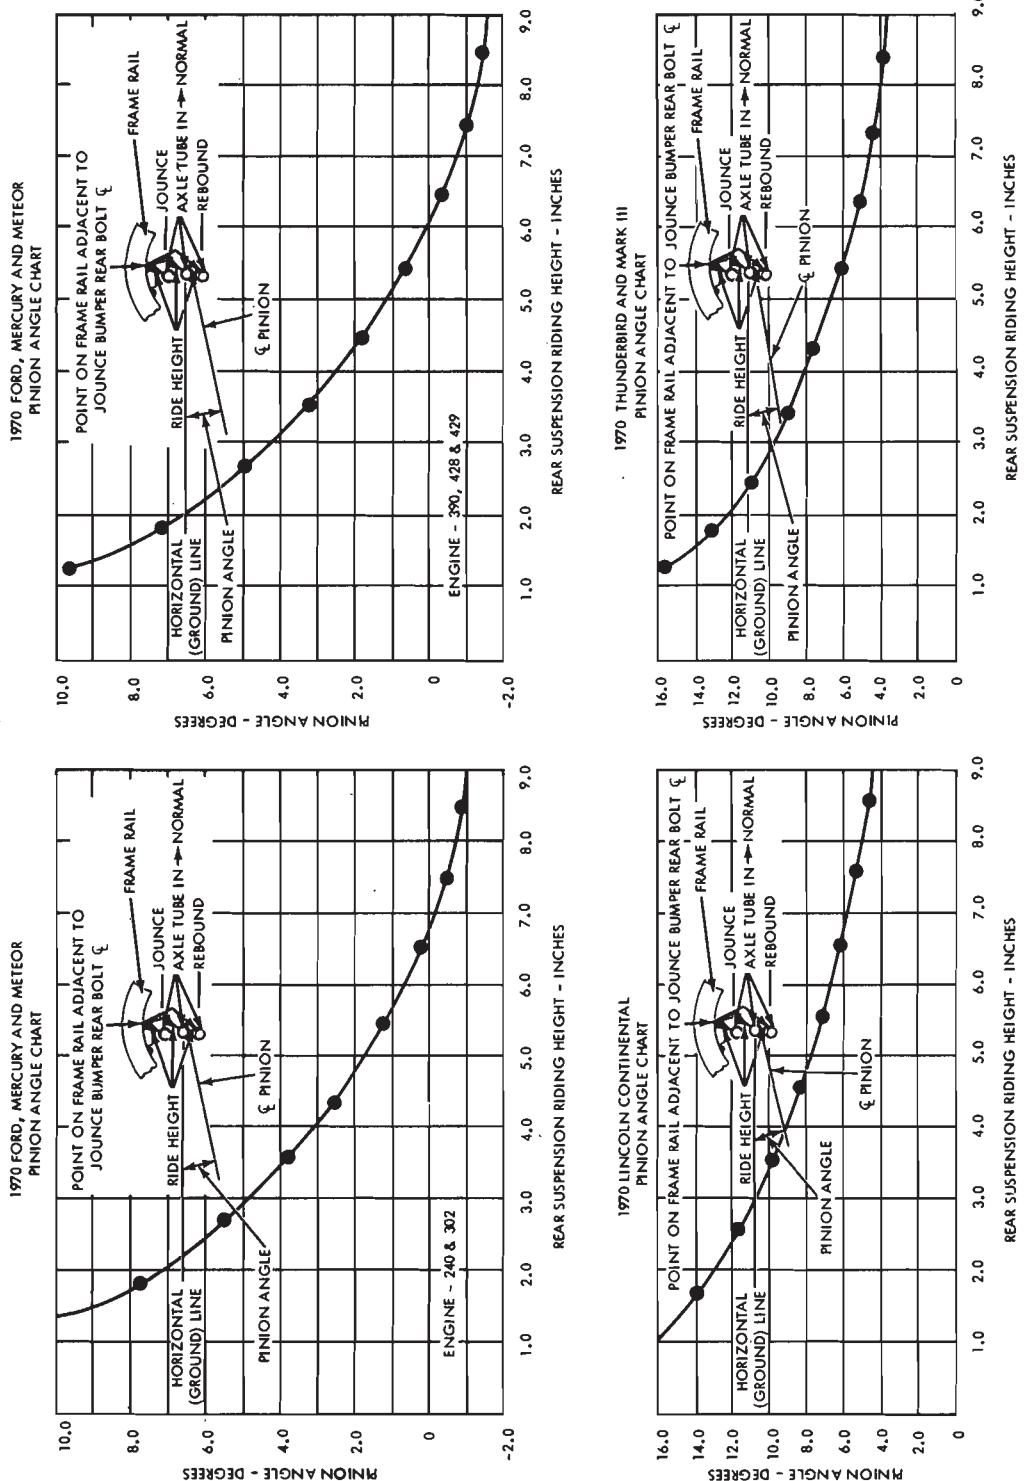

FIG. 3—Drive Shaft Pinion Angle Chart
1. Use calipers or a scale to measure the distance between the top of the rear axle housing and a point on the frame rail adjacent to the axle bumper rear bolt head (see the sketches on Fig. 3). Average the measurements taken on the left and right sides.